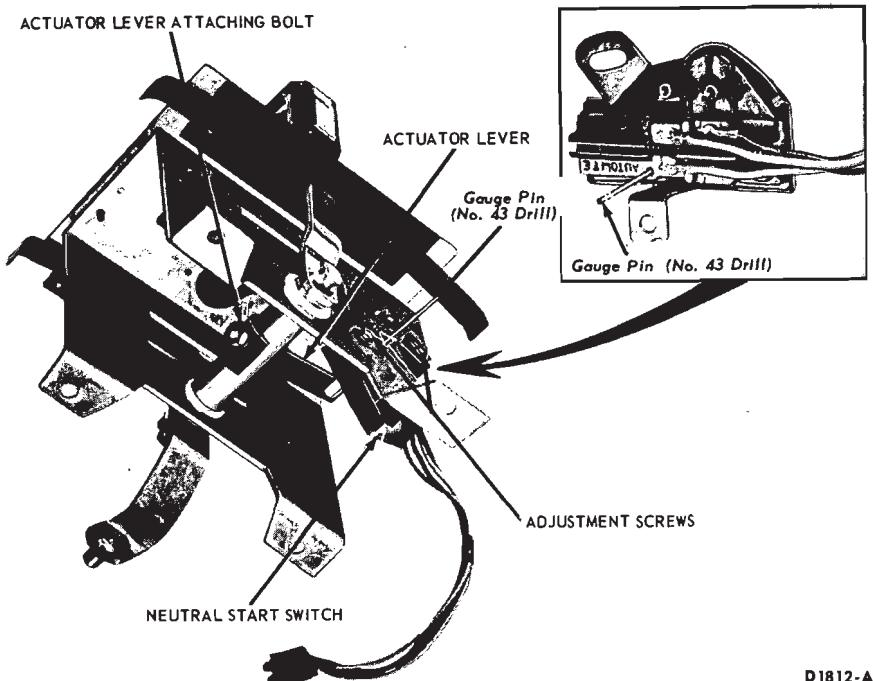

FIG. 13—Neutral Start Switch Adjustments—Console Shift—Ford
4. Loosen the two combination starter neutral and back-up light switch attaching screws (Fig. 13).
5. Move the selector lever back and forth until the gauge pin (No. 43 drill) can be fully inserted into the gauge pin holes (Fig. 13).
7. Slide the combination starter neutral and back-up light switch forward or rearward as required, until the switch lever contacts the selector lever actuator. If an adjustment can not be made by rotating the switch, loosen the actuator lever attaching bolt and adjust the lever (Fig. 13).
5. Remove the two screws securing the neutral start switch to the selector lever housing and remove the switch (Fig. 13).